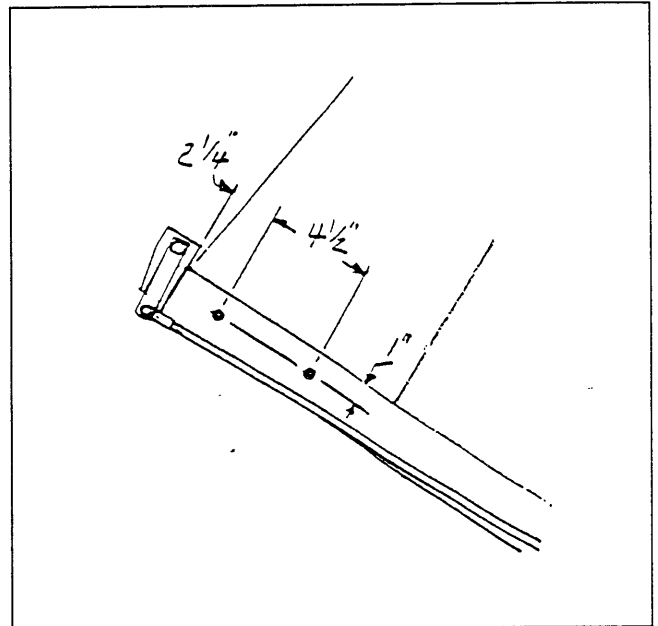

Figure 2
4. Locate the left lip of the operator foot platform. Drill two 9/16" dia. holes as indicated in Figure 2.
5. Take the left, front bracket support (3) and position it underneath the platform,